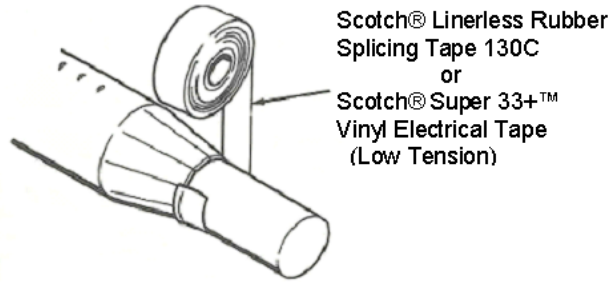

Figure 12
- Bundle mold's notched ends evenly around cable, maintaining cable centering. Starting 1/2" (12,7 mm) on cable jacket, apply 1 half-lapped layer of Scotch® Super 33+™ Vinyl Electrical Tape or Scotch® Linerless Rubber Splicing Tape 130C over notches. (Figure 12)